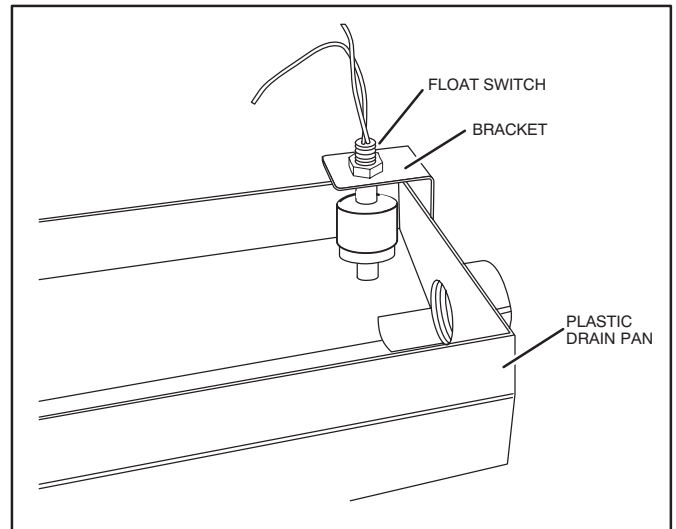

FIGURE 4. Float Switch Bracket Installation
- 3 - Install the drain pan switch assembly as illustrated in figure 4. The portion of the bracket with the two holes is positioned between the mullion and the inner support. Be certain that the holes in the bracket align with those of the mullion and inner support.